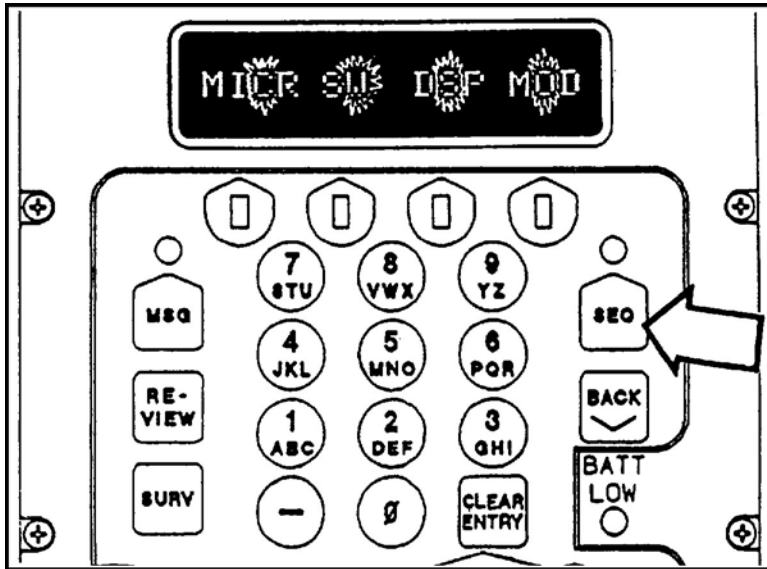
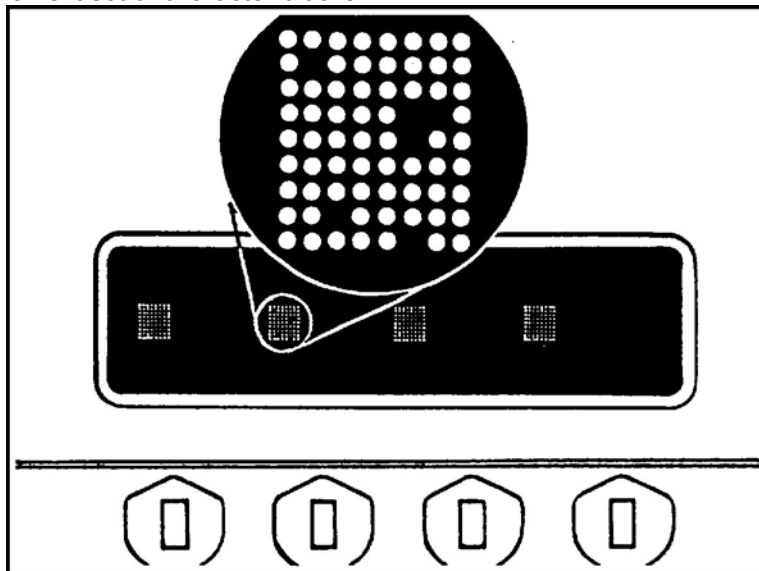

Figure 4. Menu display.
Figure 12. Character block display.
- d. Press the sequence (SEQ) switch. The display now shows the main test menu (Figure 4). Notice that the character blocks are flashing, indicating that the MBC is waiting for a selection.
- c. In the first part of the test, the MBC lights up four character blocks at a time (Figure 12). Check each block closely for any unlighted dots. Then press the SEQ (sequence) switch (Figure 4) to move to the next set of character blocks.